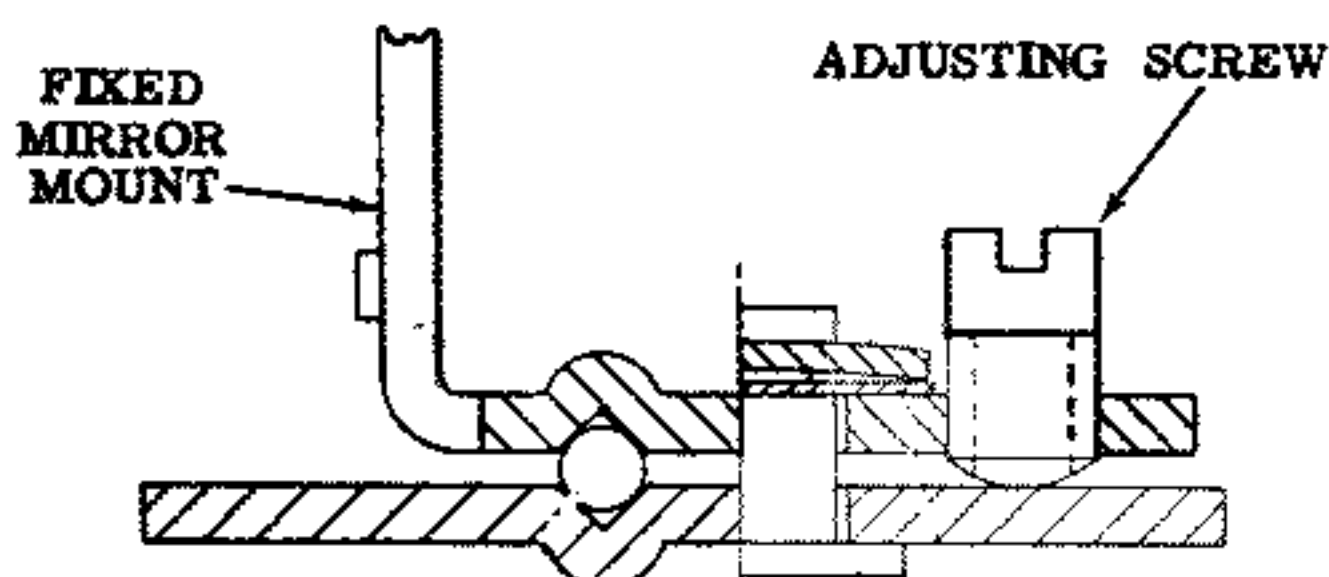

Figure 8. DOUBLE IMAGE ADJUSTMENT
c. To set rangefinder infinity, sight the rangefinder on a target of 500 feet or more. Move the yoke forward about 1/8 inch and lock the yoke with lever on front right corner. Adjust the moveable mirror shaft by loosening the 3/16 inch hexagonal rangefinder arm screw. Turn the mirror mount while observing the movable image in the fixed mirror. When the images are aligned, tighten the hex head screw. Adjust double vision by turning the set screw on the fixed mirror mount (figure 8). Observe infinity and readjust if necessary. Remove master cam.